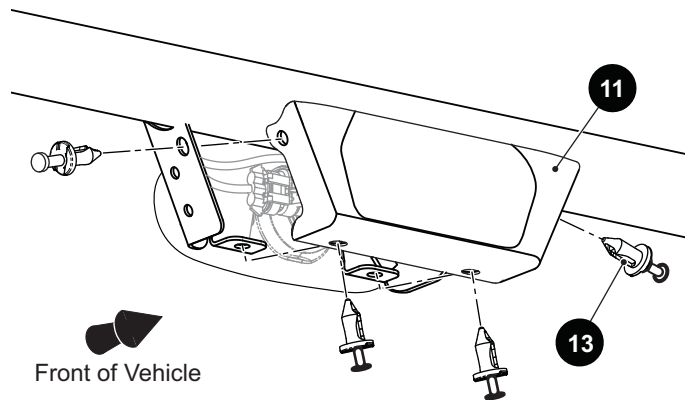

Fig. 4 CHMSL Back Cover
3. Connect the CHMSL wiring harness to the exposed main harness coming from the extended cab ROPS tube (7).
4. Align the mounting holes on the CHMSL back cover (11) with the mounting bracket holes and secure with removable rivets (13) (Ref. Fig. 4).